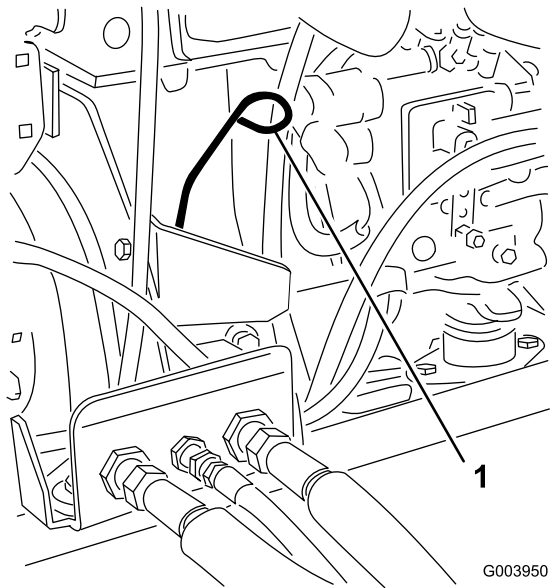

Figure 31
3. Remove the dipstick, wipe it clean, and install it (Figure 31).